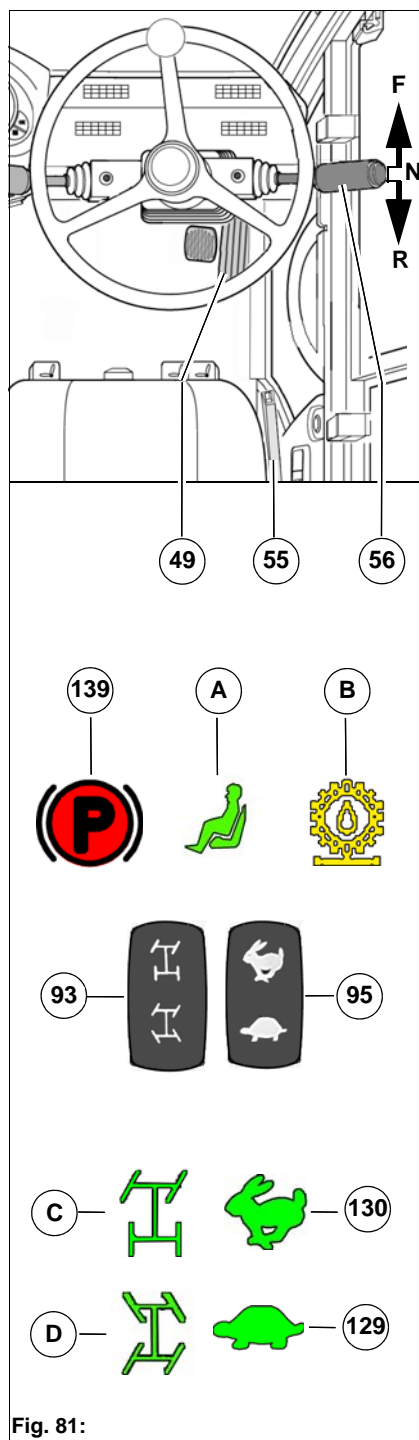

Fig. 81:
- Front wheel steering **Fig. 81-C**
- Four-wheel steering (only in work mode) **Fig. 81-D**
If the driver is not on the driver's seat when the engine is running, the warning symbol **Fig. 81-A** appears in the multifunction display.
If the pressure filter of the drive pump is contaminated, the warning symbol **Fig. 81-B** appears in the multifunction display. The drive pump no longer supplies the full delivery rate and the vehicle does not achieve maximum speed. Inform an authorised workshop.